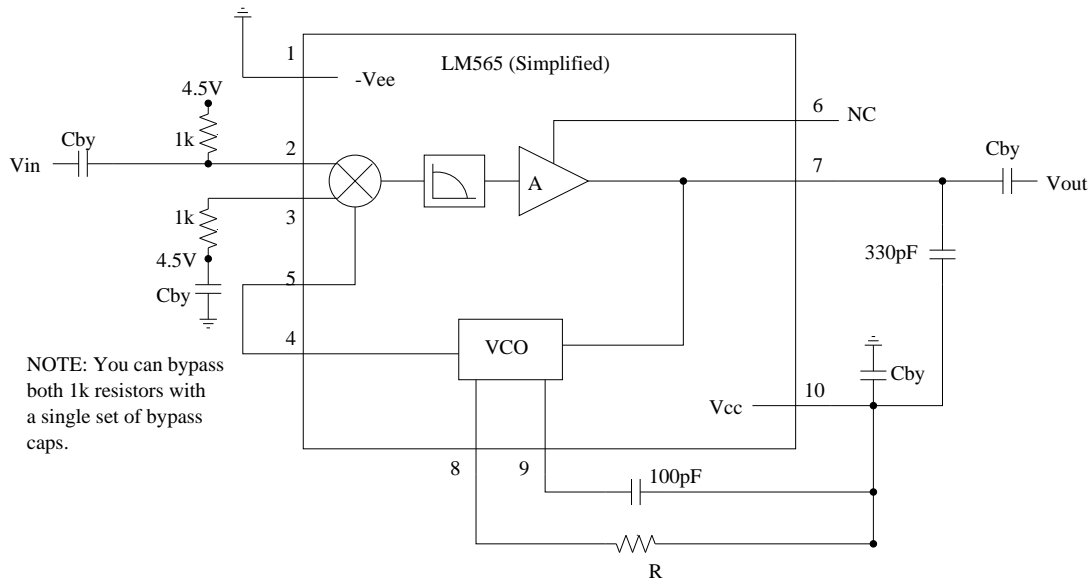

Figure 2: LM565 PLL
Please refer to Figure 2 in the course of this discussion. At the heart of the PLL is a VCO. In fact, the VCO is nearly identical to the LM566 which you used in Lab 2 (I told you it would be important). The rest of the PLL is nothing more than a feedback loop placed around the VCO so that it can be automatically adjusted to replicate the frequency of the incoming signal.
5. Build the circuit in Figure 2 for lab. You will use the circuit for FM Demodulation so it should go on the receiver board. (Make sure to re-check all your connections before powering this chip on, you want to be sure to get this one right the first time.)